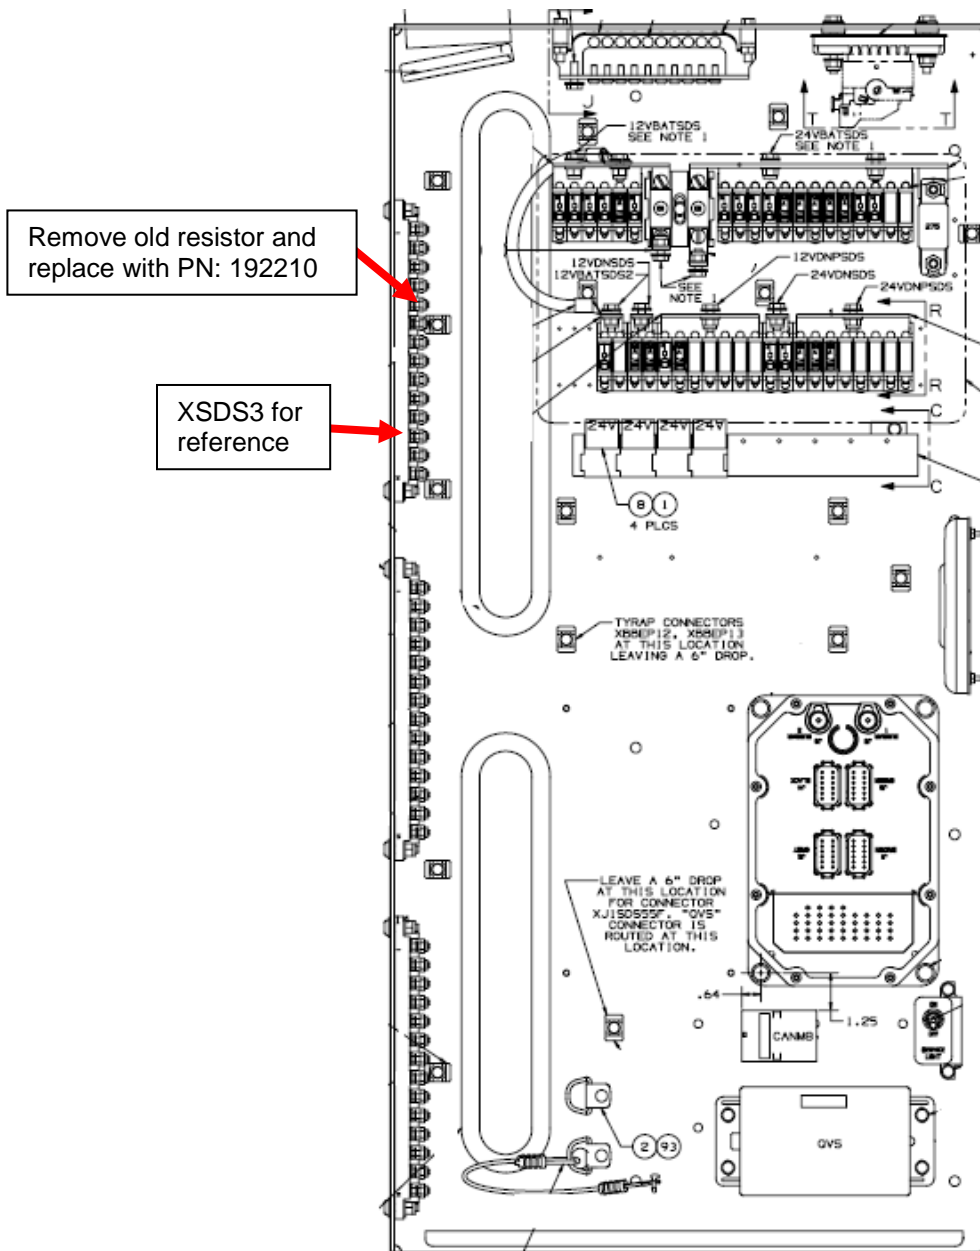

Figure 2: Rear facing side of SDS compartment.
8. Remove and replace pull down resistor with PN: (192210) and torque resistor connection on terminal block at XSDS3-4 and XSDS3-6 to 10.6 in-lbs as indicated in figure 2.